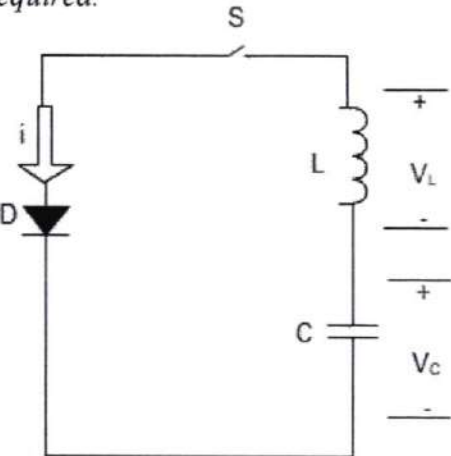

Figure 1. Diode circuit with LC load
- a. A diode circuit as shown in Figure 1 below with capacitor having an initial voltage; $V_C(t=0) = V_0 = 110V$, capacitance, $C = 10 \mu F$; and inductance, $L = 10 \mu H$. If switch S is closed at $t = 0$, determine (i) peak current through the diode (ii) conduction time of diode, and (iii) final steady state capacitor voltage. [1+1+1=3]